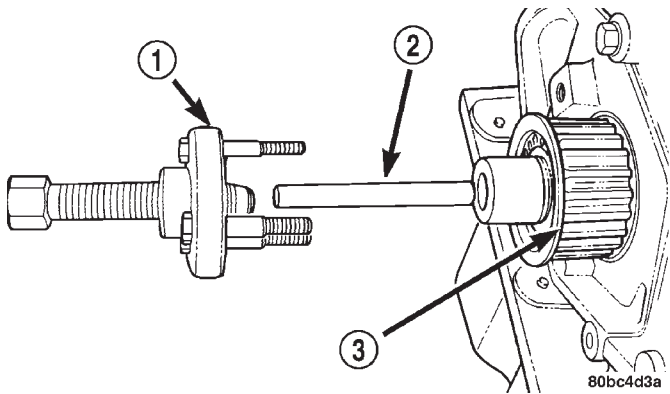
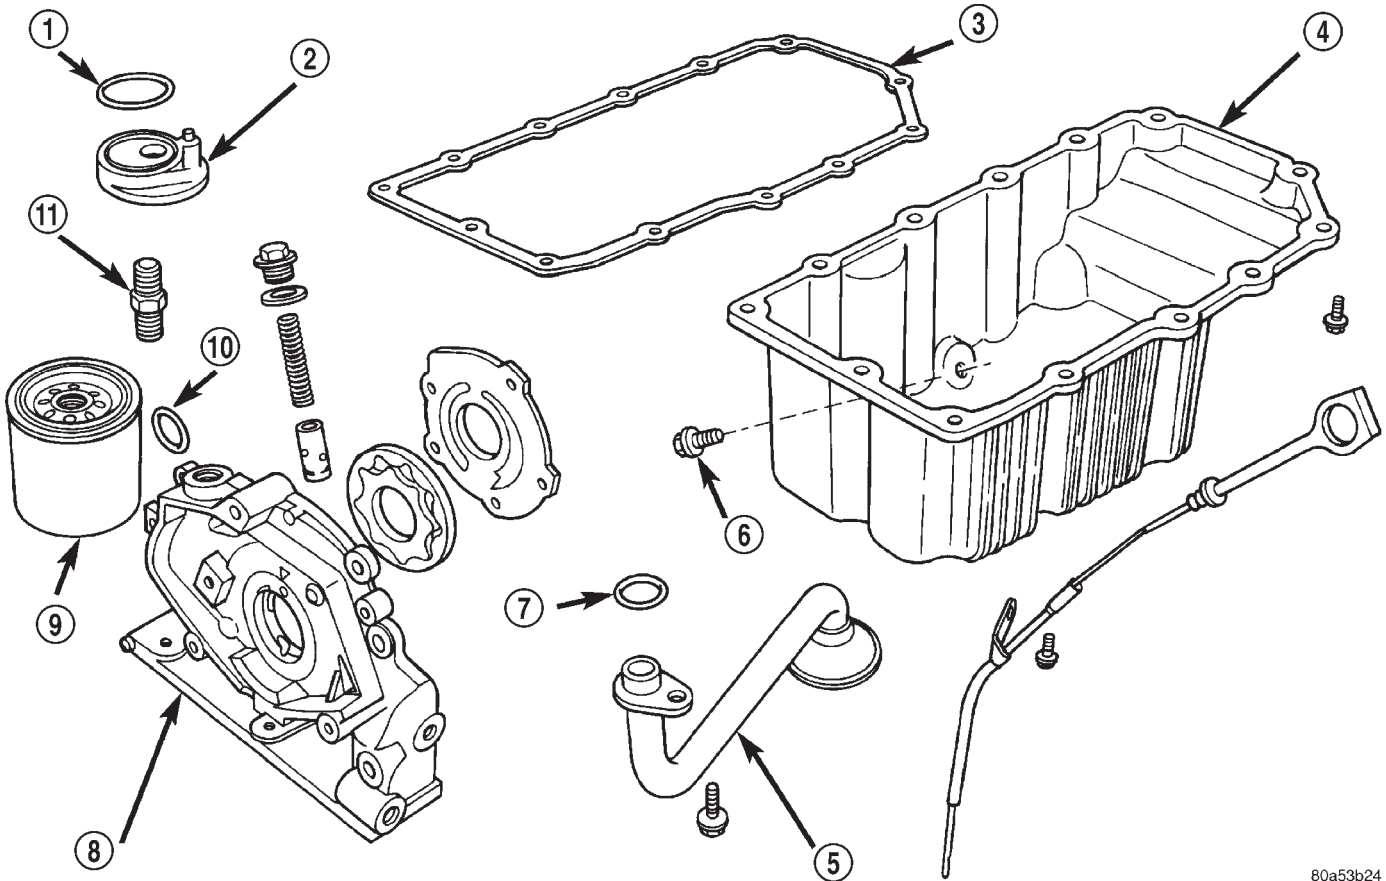

Fig. 103 Crankshaft Sprocket—Removal
Fig. 104 Oil Pump and Tube
(1) Disconnect negative cable from battery.
(2) Remove crankshaft damper, timing belt, and tensioner. Refer to procedures in this section.
(3) Remove camshaft sprocket and rear timing belt cover. Refer to procedures in this section.
(4) Remove oil pan. Refer to procedure in this section.
(5) Remove crankshaft sprocket using Special Tool 6793 and insert C-4685-C2 (Fig. 103).
(6) Remove oil pick-up tube.
(7) Remove oil pump (Fig. 104) and front crankshaft seal.